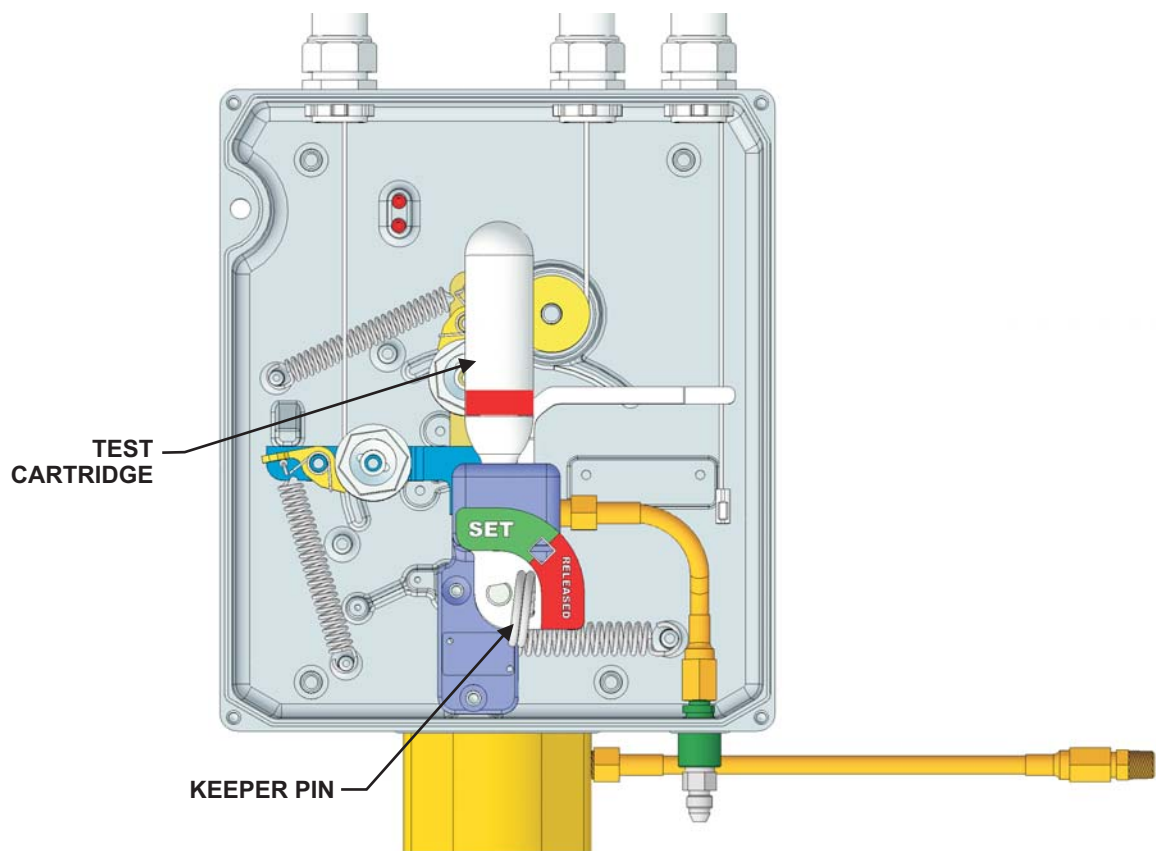

Figure 4-82. UCH Control System, Test Cartridge Placement
1. After ensuring that the system is in the 'Set' position and the Keeper Pin is in place, locate the Test Cartridge (P/N B120044). Carefully install the cartridge into the valve assembly of the UCH Control System. Tighten until cartridge is snug (see Figure 4-82). It is permissible to perform this test with the System Cartridge.